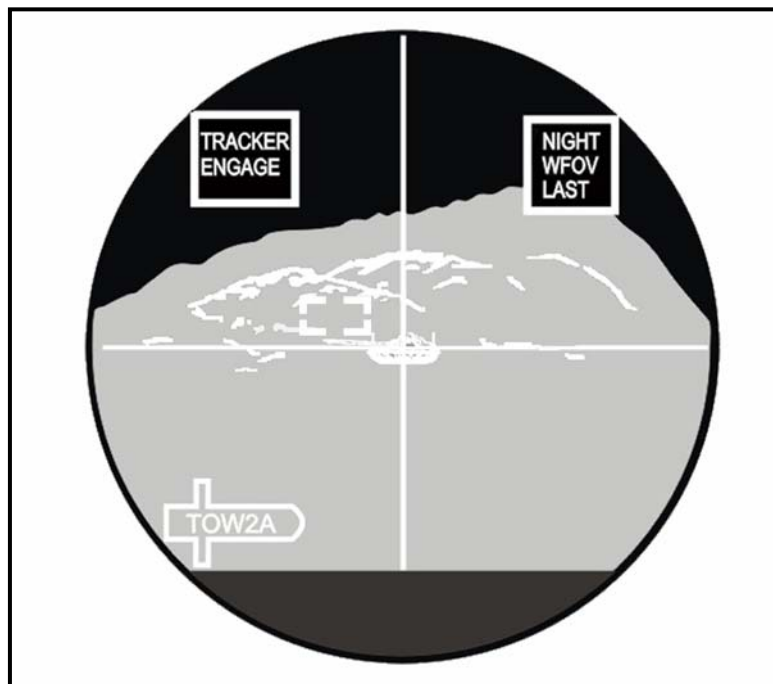

Figure 3-13. Unstable track gates at lock-on.
d. **Track Gates are Unstable.** The tracker does not have a good lock on the target if the track gates seem to jump from one position to another at lock-on (unstable), which is caused by some feature (normally IR clutter) in the track gate that the gunner cannot see (Figure 3-13). However, the tracker **can** detect the feature and is trying to incorporate it into the lock-on solution. The gunner breaks the lock-on, decreases the size of the track gates, and attempts to lock onto the target again.